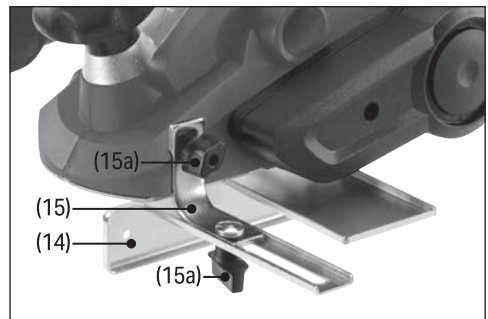

Fig. 5
7.4 Planing with the Guide Bar (Fig.5)
- Use the guide bar (14) for cutting out recessed planes.
- Install the guide bar (14) onto the tool with the angle bracket (15) and fixings (15a).